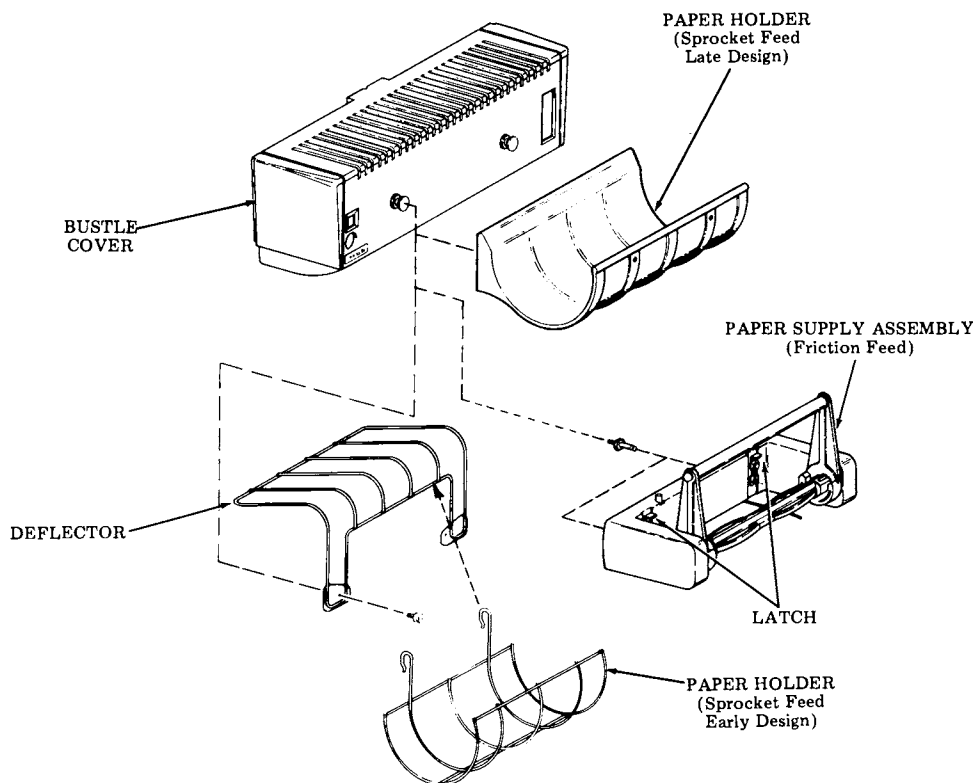

Fig. 11—Paper Holder and Paper Supply Assembly
3.22 To remove the paper supply assembly, disengage latches from mounting posts by pulling straight up. Slide assembly from mounting posts (Fig. 11).
3.24 Attach the wire paper holder to the deflector (if present), otherwise attach the plastic paper holder to bushings as shown in Fig. 11.